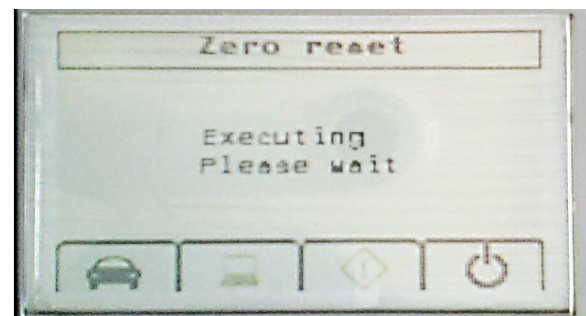

Figure A15
- The screen in Figure A15 will display while zero point reset is being performed.